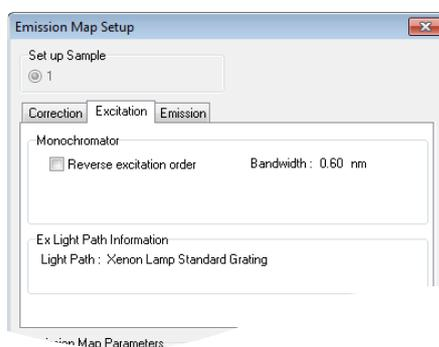

Figure 5-7: Emission Map Setup – Excitation
- Select the **Excitation** tab and decide whether the excitation should be stepwise increased – unchecked tick box, or stepwise decreased – checked tick box **Reverse Excitation Order** (refer to Figure 5-7). Use the latter option when there is a risk for noticeable photo-degradation of the sample during the long measurement time. Starting at longer wavelengths (lower excitation energies) reduces the impact of photo-degradation on the measurement.